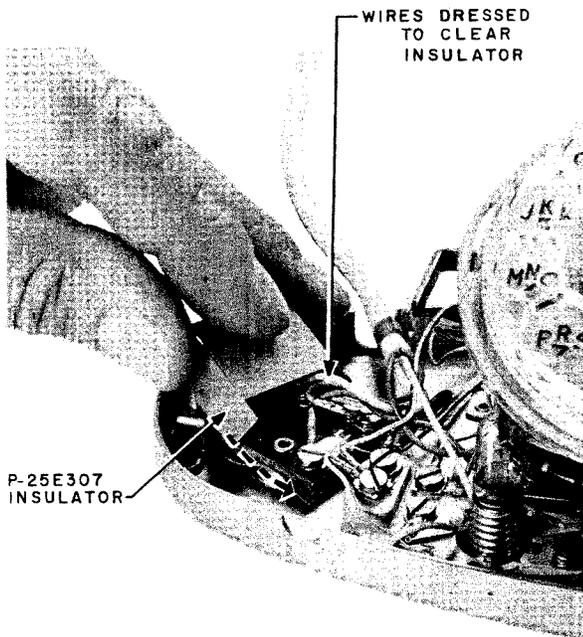
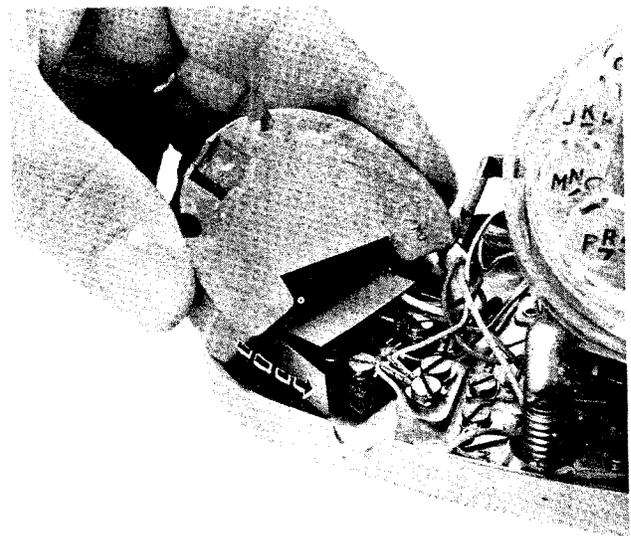

Fig. 8 – Placing Insulator over Terminal
Fig. 9 – Funneling Weight into Position
2.10 Install a weight in 701B and 701D telephone sets to reduce sliding on smooth surfaces during dialing. A D-179924 kit, containing a weight, spring, and insulator is available. Dress all leads so that the spade tips fall wholly within the boundaries of the terminal block, and then place insulator. (See Fig. 8.) Funnel weight into position. (See Fig. 9.)